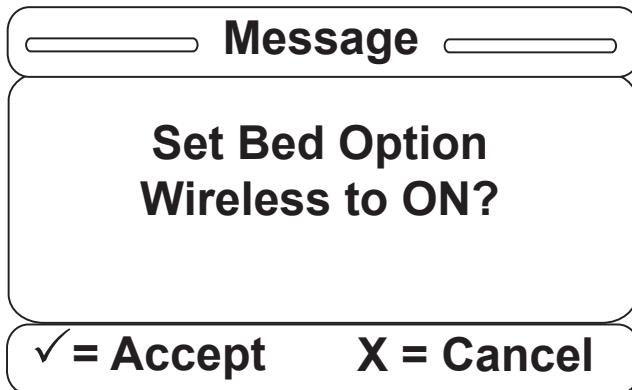

Figure S-20
20. Once you have selected one of the items, a confirmation screen such as that in Figure S-20 will be displayed. The confirmation screen text will vary based on the item you have selected. The confirmation screen in Figure S-20 indicates that the user chose the Awareness option to be ON. Hit “Enter” on the footboard panel to confirm your Wireless option; hit “Exit” to cancel the operation.